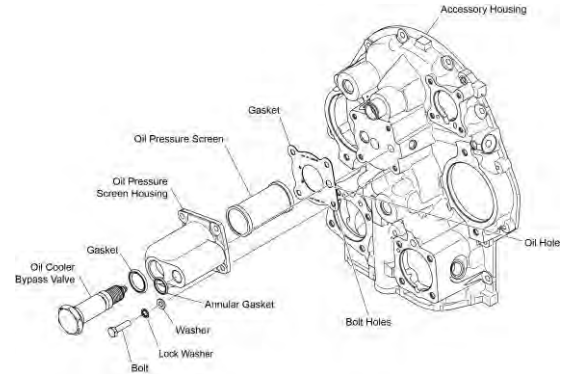

Figure 10
- A. Remove the four bolts, lock washers, and washers from the oil pressure screen housing (Figure 10). Discard the lock washers.
- A. Install the oil pressure screen (Figure 10) in the oil pressure screen housing flush with the base of the oil pressure screen housing.
NOTICE: Make sure the new gasket for the oil pressure screen housing (Figure 10) aligns with the pad on the accessory housing and the oil pressure screen housing.
- D. Mount the oil pressure screen housing assembly with the new gasket on the pad of the accessory housing aligned with the bolt holes and oil hole on the pad of the accessory housing using the four bolts, each with a washer and a new lock washer as shown in Figure 10.